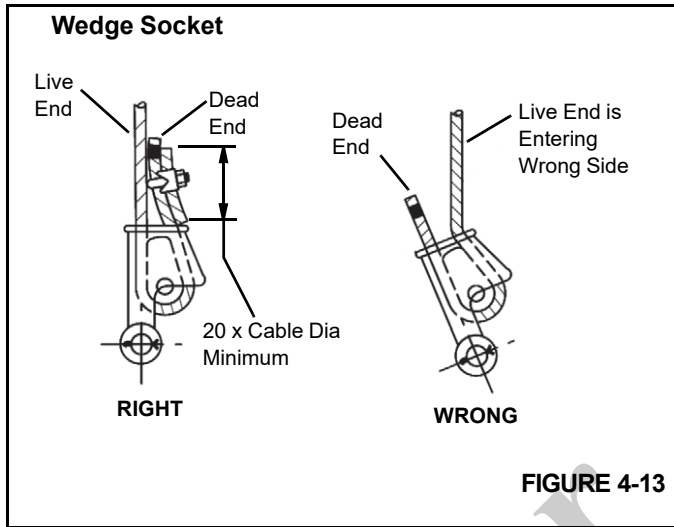

FIGURE 4-13
3. Make sure the live-end (Figure 4-13) of the rope is directly in line with the lugs of the socket and the direction of pull to which the rope will be subjected. If the rope is loaded into the socket incorrectly, under a load
4. Insert the end of the wire rope into the socket, form a loop in the rope, and route the rope back through the socket allowing the dead-end (Figure 4-13) to protrude from the socket. Ensure the dead-end of the rope is of sufficient length to apply end treatment to the dead-end after the wedge has been seated.